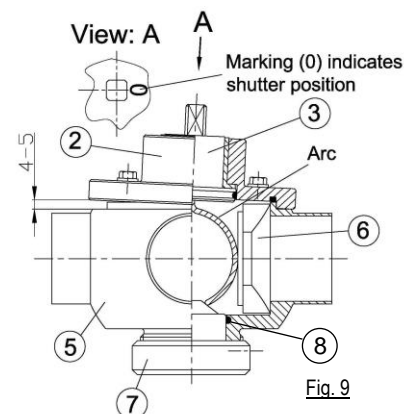

Fig. 9
2. Insert bearing bushing (9) into bearing cap (2).
3. Insert O-rings (4), (8) and (10).
4. Assemble pivoted axle with arc (3) and bearing cap (2). Pay attention to the marking (0) on the square pin of the pivoted axle (3) → indicates the shutter position (6) (see Figure 9).
5. Insert shutter (6) into valve casing (5).
6. Fit the pivoted axle with the arc (3) together with bearing cap (2) to the valve casing (5) as follows:
a) The pivoted axle with arc (3) is designed that it exerts a defined pressure on the shutter (6) during assembly. On account of the prestress characteristics, the bearing cap (2) declines approx. 4-5mm off the valve casing (5) on the opposite side of the shutter (see Figure 9).
c) Fasten the handle (1) in the desired position.